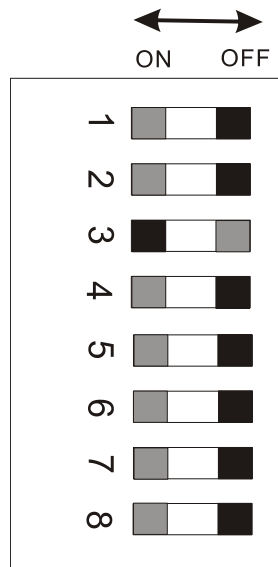

Figure 5-5
1. Set the 3rd DIP Switch to the ON position to enable the cutter function (see Figure 5-5).